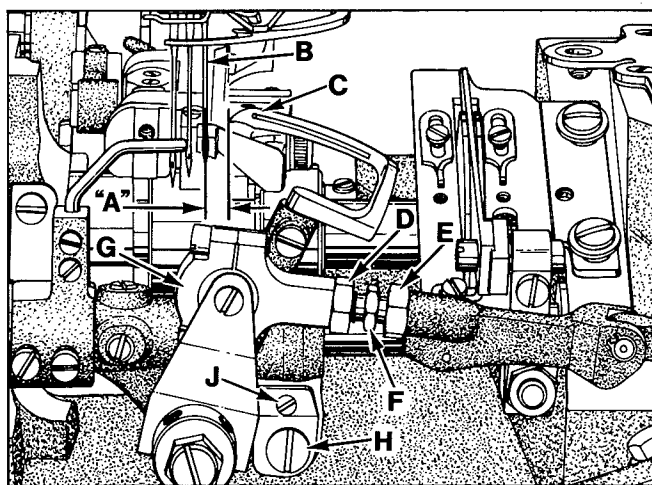
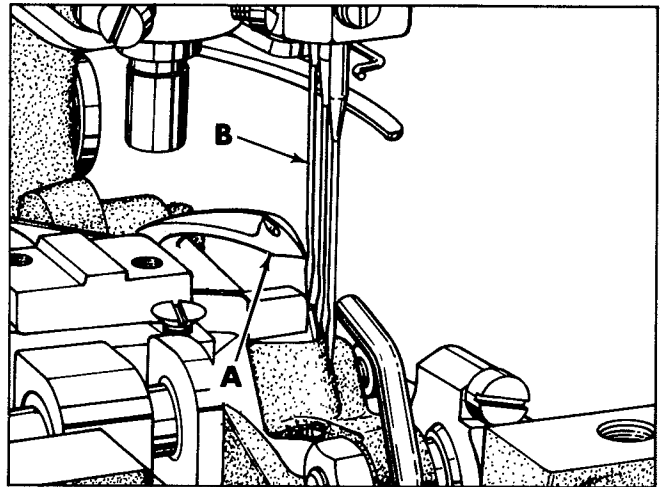

Fig. 7
Fig. 8
Insert a new needle of type and size required into right needle seat. Turn handwheel in operating direction until looper is at its extreme right end of travel. Looper gauge ("A", Fig. 7) is the distance between centerline of right needle (B) and point of looper (C); see CHART for dimensions on following page.
While turning handwheel in operating direction, as the looper (A, Fig. 8) moves to the left its point should be set to brush but not pick at the REAR of RIGHT needle (B). Adjustment can be made by loosening screw (H, Fig. 7), turn stop screw (J) clockwise to move looper towards the rear, counterclockwise acts the reverse. It is suggested to hold looper towards the front while making this adjustment. Tighten screw (H) after adjustment has been made and recheck movement of looper.